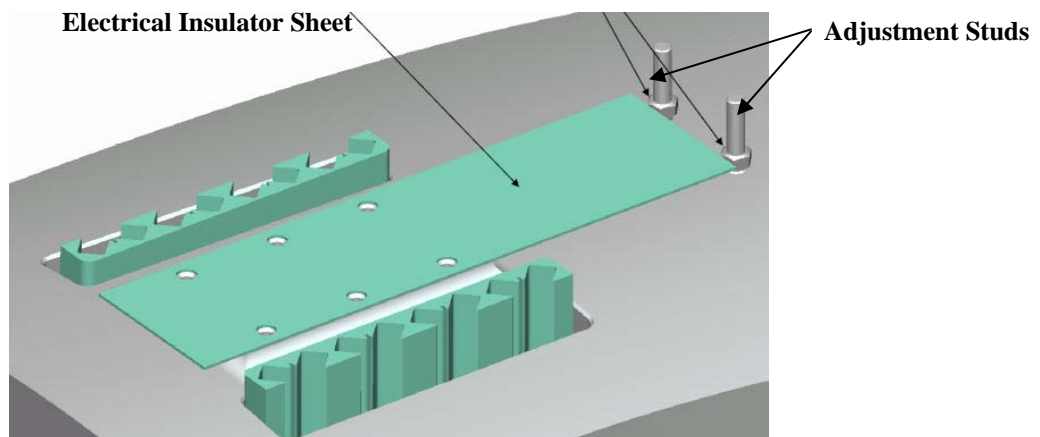

Figure 15- Electrical Insulator and Adjustment Studs
- Using the G-11CR mounting base locate the position of the (2) 3/8-16 studs. [Figure 15- Electrical Insulator and Adjustment Studs] **[Note: The type A & B base plates are identical, Type B is not. See NCSX drawings for appropriate base plate.]**
- TIG weld the (2) 3/8-16 studs to the winding form.
- Install the electrical insulator sheet and height adjustment nuts onto the studs just welded. [Figure 15- Electrical Insulator and Adjustment Studs]